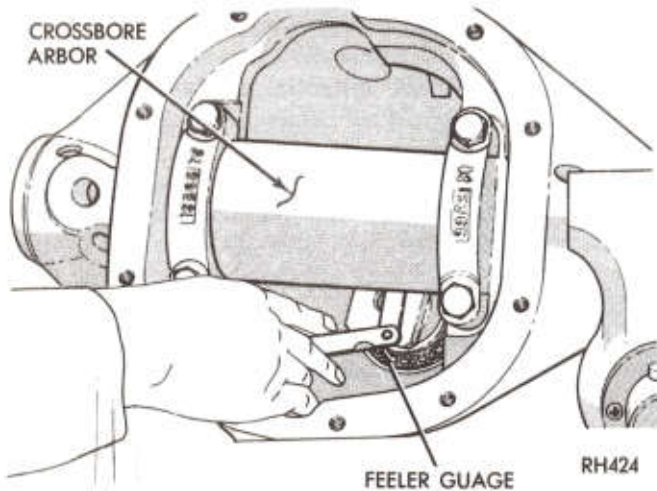
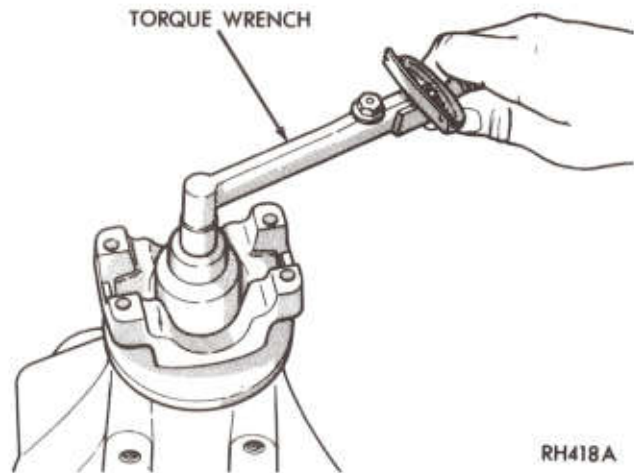

Fig. 29—Determining Shim Pack Thickness for Drive Pinion Depth of Mesh
Fig. 30—Checking Pinion Bearing Preload
(9) Using a feeler gauge select the proper thickness of shims that will snugly fit between arbor and gauge block. This fit must be snug but not too tight (similar to the pull of a feeler gauge). This measurement is then used in determining the correct thickness shim pack for installation behind the rear pinion bearing cup and carrier casting (Fig. 29).
(10) To select a shim pack for installation, read the markings on the end of pinion head (-0, -1, -2, +1, 2, etc.). When marking is -, add that amount to the thickness of shim pack selected in step (9). When the marking is + subtract that amount. Treat other pinion markings in a similar manner. Shims are available in .003, .005, and .010 inch (.076, .127, and .254mm) thickness. See "Pinion Setting Chart".
(11) Remove tool arbor and tool from housing.
(12) Using a brass drift or soft punch and hammer, remove rear pinion bearing cup from casting.
(13) Position the correct shim pack in axle housing cup bore and install rear bearing cup as described previously in steps (1) thru (5). When cup is properly seated, remove tool and pinion bearing cones.
(14) Lubricate rear drive pinion bearing cone with MOPAR Hypoid Lubricant Part Number 4318058 or equivalent and install bearing cone on pinion stem using Tool W-262. An arbor press may be used in conjunction with tool.
(15) Install drive pinion and bearing assembly in carrier and install the original front pinion bearing shim pack followed by the bearing cone. **Do not install oil seal at this time.**
(16) Install universal joint flange, washer, and nut. Tighten nut 200 to 220 ft. lbs. (271 to 298 N·m). Rotate pinion several complete revolutions to seat bearing rollers.
(17) Using an inch-pound torque wrench C-685-A, measure pinion bearing preload by rotating pinion with handle of wrench floating (Fig. 30). Take reading while handle is moving through several complete revolutions.